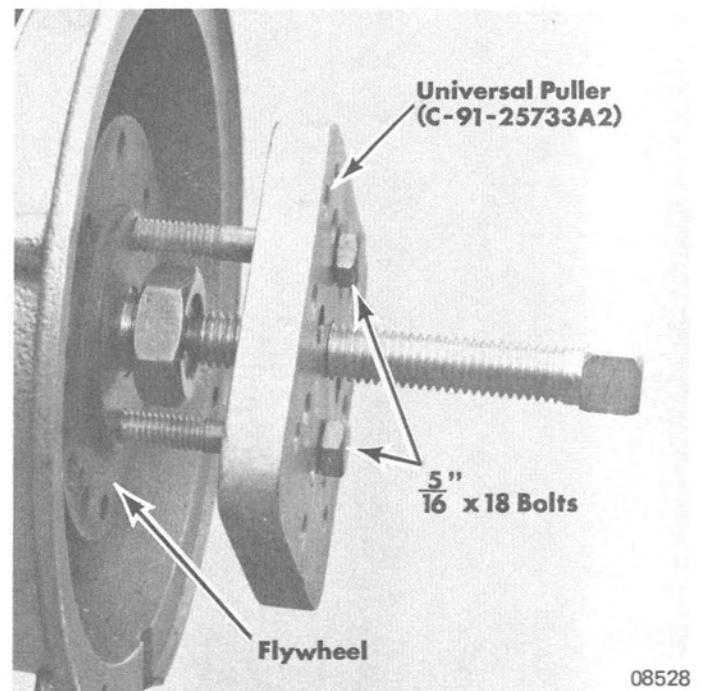

Figure 2. Flywheel Removal
- e. Install modified (refer to template, Section 9) Universal Puller (C-91-25733A2) on flywheel. (Figure 2) Use crankshaft protector or reinstall flywheel nut to protect crankshaft from damage.